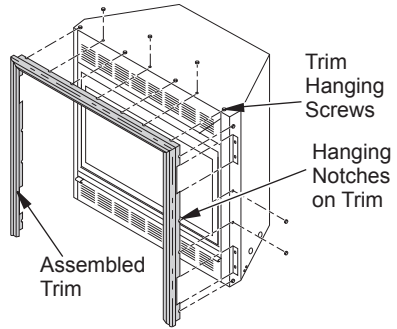

Figure 7 - Attaching Trim to Fireplace
8. Tighten trim hanging screws (#10 x 6.25 shoulder) into holes in cabinets. Place the assembled trim onto fireplace cabinet. Align hanging notches on trim with hanging screws on side of fireplace (see Figure 7). Push trim firmly into place, sliding hanging notches over hanging screws.
15. Install trim after final finishing and/or painting of wall (see Figure 7, page 9).